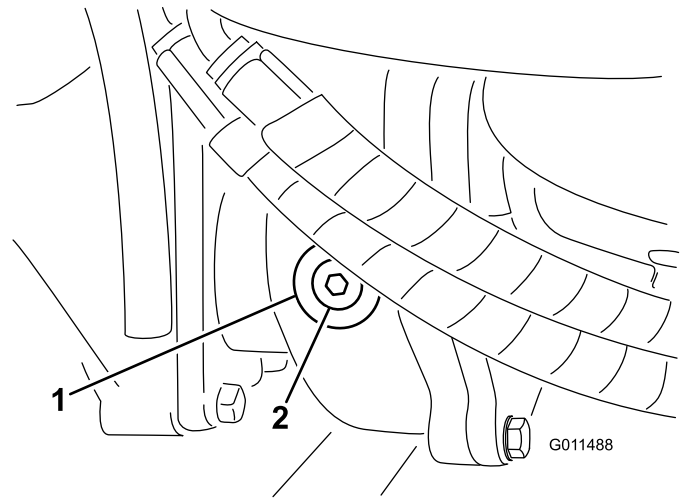

Figure 16
- Remove the check/fill plug from the left side of the gear box (Figure 16) and make sure that lubricant is up to the bottom of the hole. If the level is low, add enough lubricant to bring the level up to the bottom of the hole.